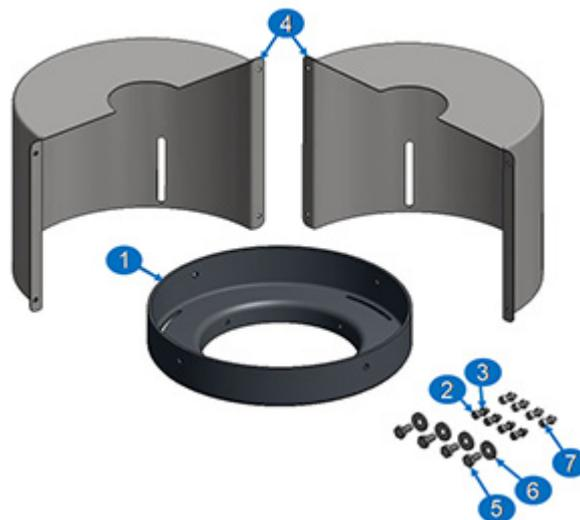

Figure 6-10.
Figure 6-10 is a general drawing showing the rotor removal trough, item 1 (P/N 7402714) that is provided to protect the cylinder and rotor blade pins from coming into contact upon removal of the rotor. After assembling the mount, ensure that the mount is level by using the adjustable feet on the legs of the mount. It is recommended to install with a 0.5-degree pitch for product and CIP drainage.